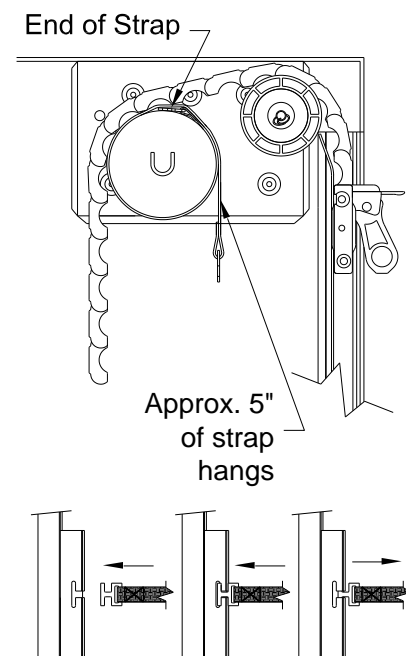

Fig. 5
- b) Let the straps hang as shown in Fig. 5. Straps should wrap around the operator diameter approximately 1-¼ times, then drape down approximately 5".
- a) Feed the top slat of the shutter over the nylon rollers and operator as shown in Fig. 5. Let the curtain hang behind the operator. Gravity should hold the curtain in this position the bottom rail against the header.